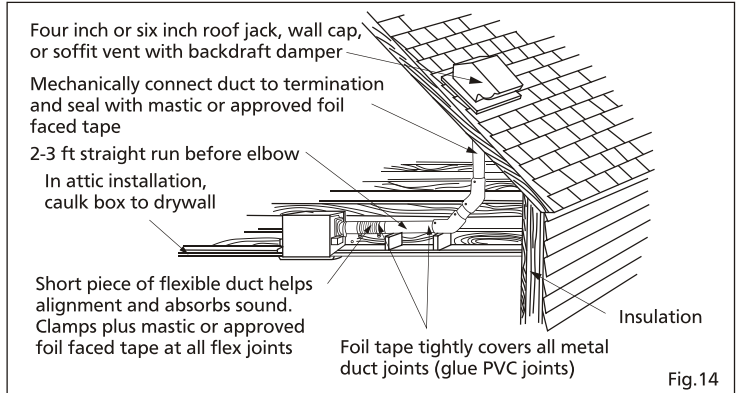

Fig.14
5. Using a cloth dampened with kitchen detergent, remove any dirt from fan body. Wipe dry with clean cloth. (Fig.14)
Properly insulate the area around the fan to minimize building heat loss and gain. (Fig.14)